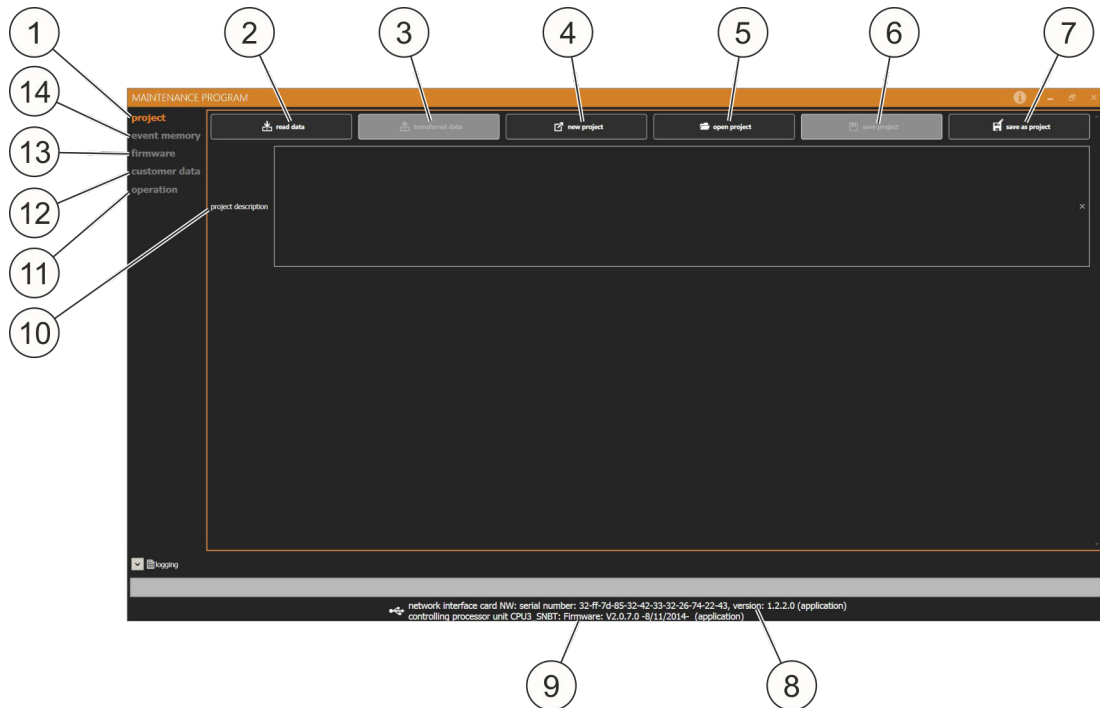

Fig. 75: Maintenance program homepage
- Project (Fig. 75 /1) ↪ Chapter 9.3 „Project” on page 89
- Import data (Fig. 75 /2) (gray background, if no system is connected)
- Transfer data (Fig. 75 /3) (gray background, if no data has been imported yet)
- New project (Fig. 75 /4)
- Open project (Fig. 75 /5)
- Save project (Fig. 75 /6) (gray background, if no project was opened previously)
- Save project as (Fig. 75 /7)
- Event memory (Fig. 75 /14) ↪ Chapter 9.4 „Event memory” on page 89
- Firmware (Fig. 75 /13) ↪ Chapter 9.5 „Firmware” on page 90
- Customer data (Fig. 75 /12) ↪ Chapter 9.6 „Customer data” on page 90
- Operation (Fig. 75 /11) ↪ Chapter 9.7 „Operation” on page 92
- Network Interface Card serial number, Network Interface Card version number (Fig. 75 /8)
- Firmware version (Fig. 75 /9)
- The project can be described in the project description (Fig. 75 /10). This description is saved with the project via "Save project as" or via "Save project" with the data on the **PC**. The project description is not transferred to the system (DET-AC III Master) and it is not saved in the system. The project description is not available after the data has been exported from a system.